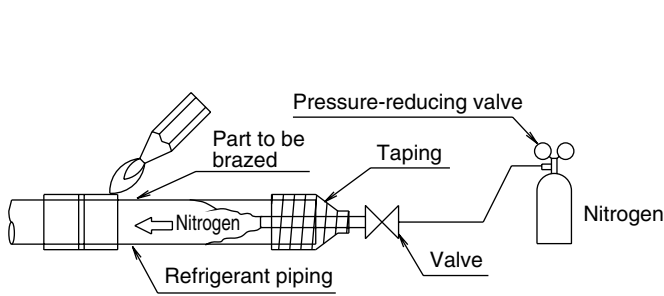

Fig. 5
- 2 When feeding nitrogen into the pipes while doing the brazing, the pressure-reducing valve should be set to 0.02Mpa (0.2kg/cm²). **(Refer to Fig. 5)**